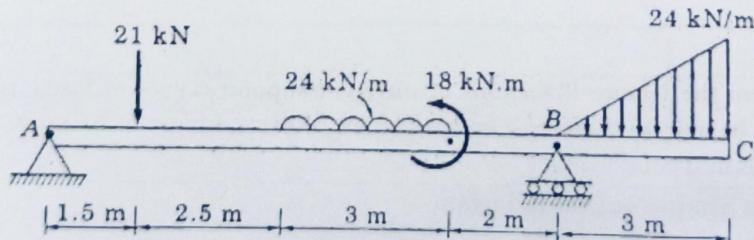

Fig 2.60
- 4) Find Support Reaction at A & B for the beam loaded as shown in the fig 2.60. A is hinged and B is roller. (Ans: 89.5kN, 39.5kN)